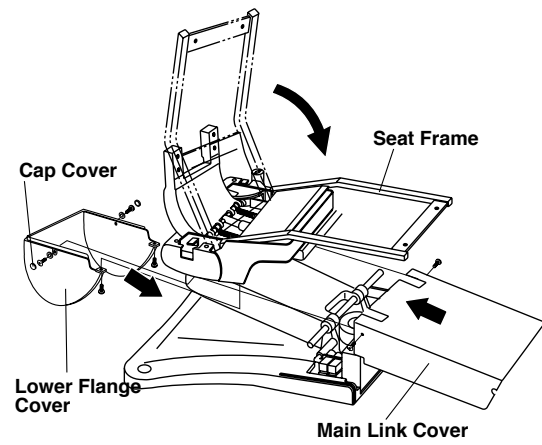

Fig.6-18 Fixing Main Link Cover and Lower Flange Cover
- A. Return the seat frame to the original position. (Fig.6-18)
- B. Fix the main link cover. (Fig.6-18)
- C. Fix the lower flange cover and fix the cap covers on the screw heads. (Fig.6-18)